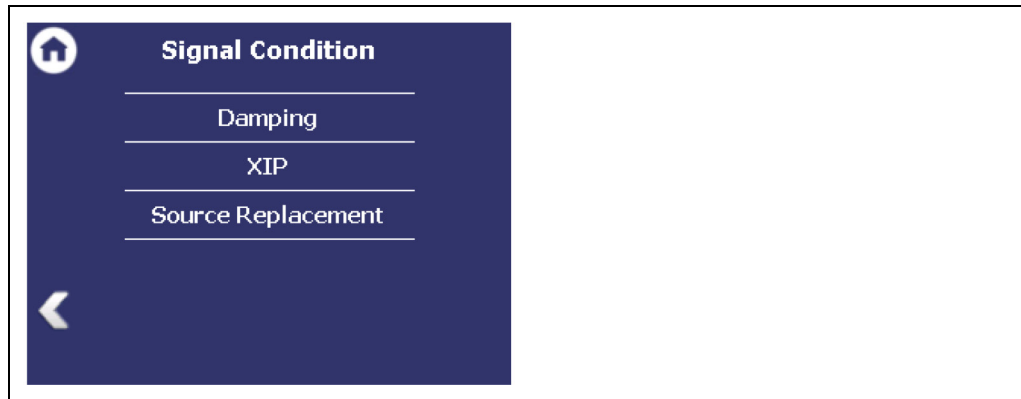

Fig. 76 Menu “Signal Condition”
In the "Level switch" menu, the functionality of the level switch is determined by selecting "Switch Type Min." (Fig. 76, item 1) or "Switch Type Max." (Fig. 76, item 2). The switch point and hysteresis can either be calculated automatically or entered manually.
The automatic calculation is not applicable as described under Device Settings | Setup | Level Switch. The switch point and the hysteresis must therefore be set manually. To do this, uncheck "Automatic" (Fig. 76, item 3).
After the bulk cone with the specified diameter has reached the monitoring level, the current count rate must be entered under "Switch point" in cps (Fig. 76, item 5).
While the plate is being held in front of the scintillator, enter the current count rate in cps in the input field "switch point" (Fig. 76, item 5).
The calculated counting rate must be entered in the input field "switch point" in cps (Fig. 76, item 5).